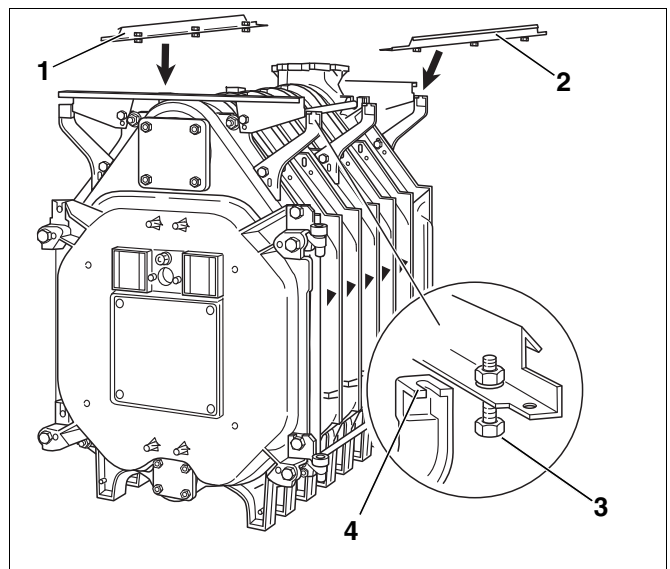

Fig. 38 Installing the longitudinal rails
- Place the longitudinal rails (Fig. 38, [1] and [2]) on both brackets on the rear and front section.
- Push longitudinal rails with prefitted screws (Fig. 38, [3]) into the recesses in the brackets (Fig. 38, [4]) and screw together.